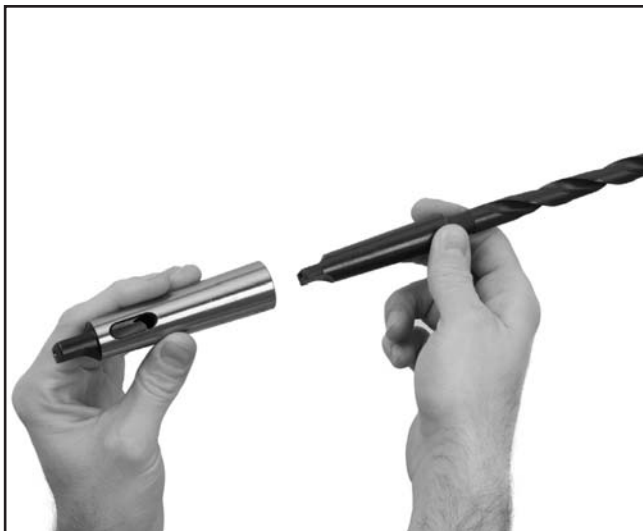

Figure 13. Installing tapered tooling into a drill sleeve.
2. Insert the tapered end of the tool into the socket in the drill sleeve while slowly rotating the tool, as shown in **Figure 13**. The sleeve has a rectangular pocket where the tang of the tool fits into.